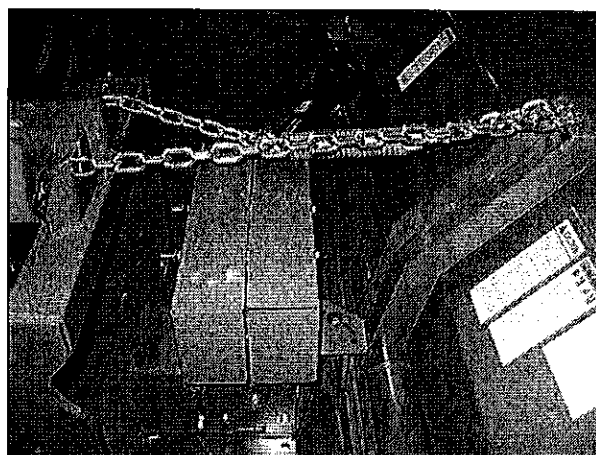

Figure 5
9. Position the brush head assembly behind the mounting assembly (figure 5).